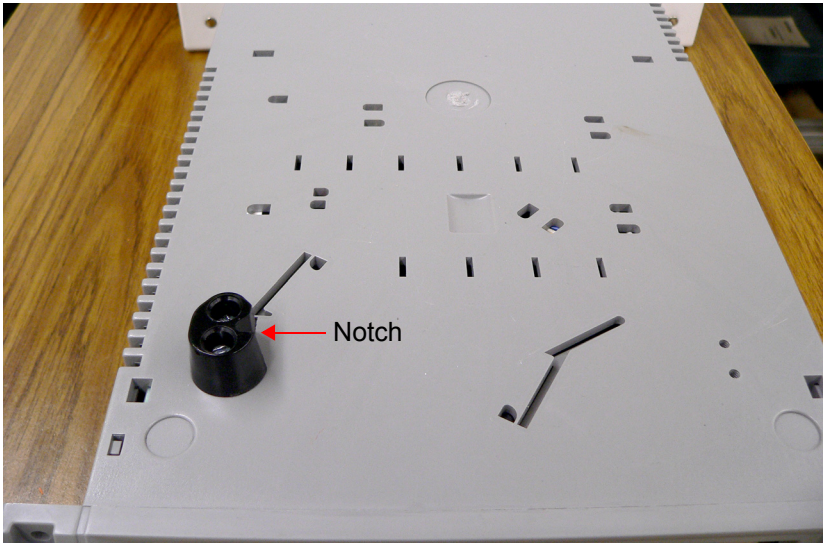

Figure 5: One Foot Installed
3. Place one of the feet with the notch for the wire stand inward (Figure 5: One Foot Installed) and secure it with two of the screws. Tighten screws snug to the feet. **DO NOT OVER TIGHTEN.**